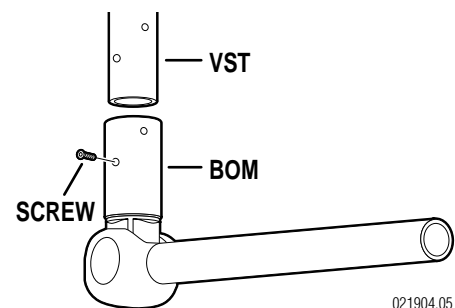

Figure 3. Balance Mechanism
a. Install the VST on the BOM, apply Loc-Tite to screw threads and secure VST with the allen screws provided. See figure 3.